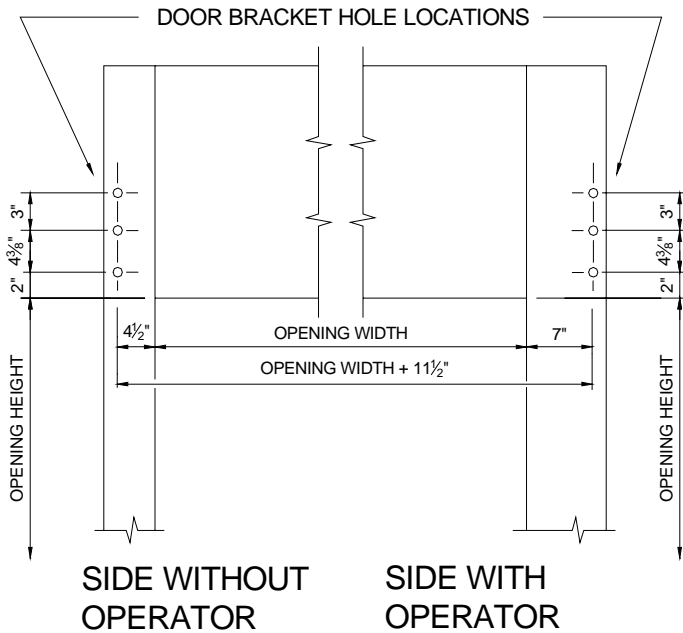

Figure 2.
3.3 Pre-drill jambs to accept door brackets; 7/16" diameter holes for 3/8" nuts and bolts in steel jambs, proper size pilot hole for 3/8" lag bolt in wood jambs. Hole locations are shown in Figure 2. Do not pre-drill jambs for door guide installation. NOTE: Door must be hung level to ensure proper tracking.
5.1 Mount the Right and Left bracket according to the spacing in Figure 2. Make sure there is enough spacing for the reduced-drive chain hoist on the chosen side of the door assembly. Fasten using the pre-drilled holes and fasteners described in Section 3.